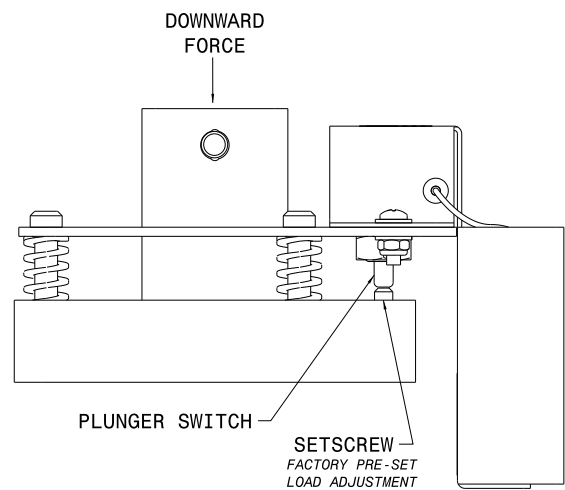

Figure 3
1. Depress the plunger switch to check electronic circuit. The alarm will sound when the switch is engaged. (**Reference Figure 3**)
2. Test alarm by slowly applying an evenly distributed force of 100 to 150 lbs (45.36 to 68.04 kg) across the top of the cradle. The top plate of the load alarm kit will lower and engage the plunger switch, A loud pulsating alarm will then sound. If alarm does not sound, refer to the Troubleshooting section. (**Reference Figure 3**)